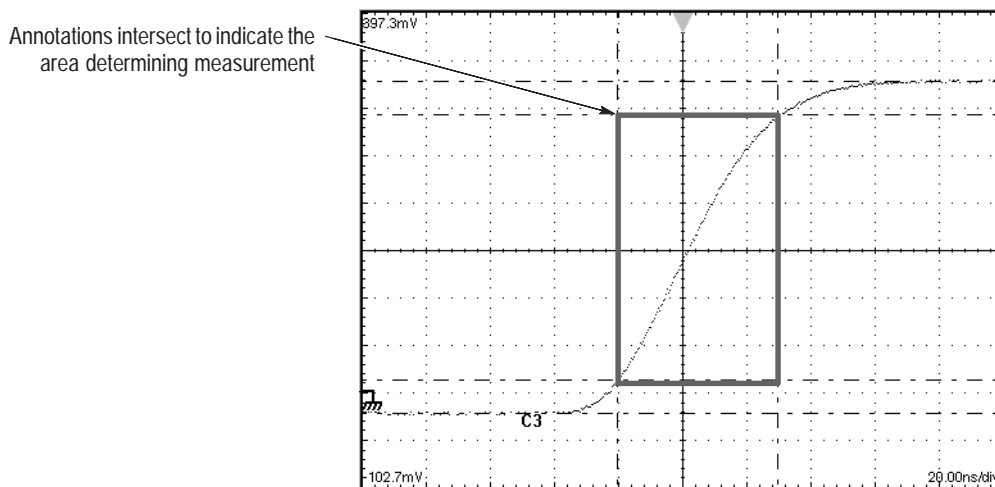

Figure 3–19: Measurement annotations on a waveform
**Annotate Waveforms On Screen.** You can turn on annotations that mark characterization levels that each measurement uses to compute results. See Figure 3–19.